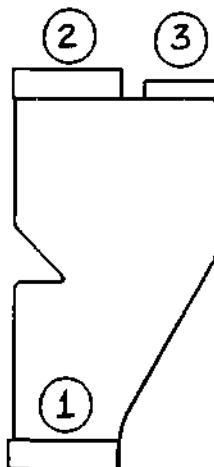

Figure 37-3. Sovent Deaerator
15. The Sovent deaerator, shown in Figure 37-3, comprises an air-separation chamber having an internal nosepiece, a stack inlet, a pressure-relief outlet at the top, and a stack outlet at the bottom.
18. In North America, deaerators, like aerators, are regulated by ANSI Standard B16.32. They are designated by the size of the openings in the sequence shown in Figure 37-3. Openings 1 and 2 are the stack connections and 3 is the pressure-relief outlet. The basic dimensions of common sizes of deaerators are shown in Table 37-2. It will be noted from this table that an NPS 3 deaerator has an NPS 2 pressure-relief outlet, and an NPS 4 deaerator has an NPS 3 pressure-relief outlet. The bracketed numbers in Table 37-2 correspond to those circled in Figure 37-3.